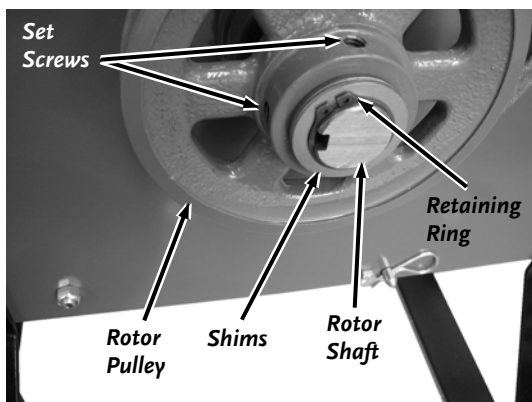

Figure 18
- c) Remove the two Set Screws with a 1/8" Allen Wrench (**Figure 18**).